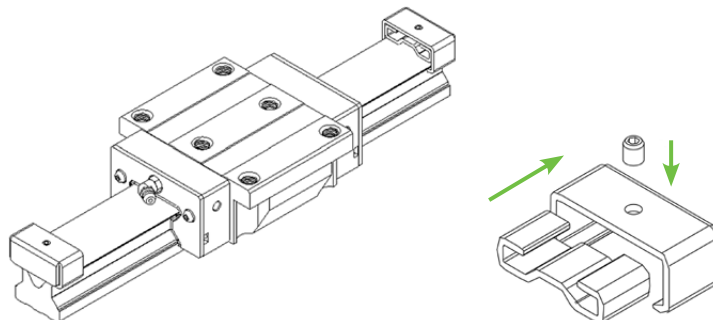

Fig. 4.23 Metal protective cap
- ▶ In order to prevent the cover strip from being lifted off, install the protective caps on both end faces of the profile rail in the last step (see Fig. 4.23).